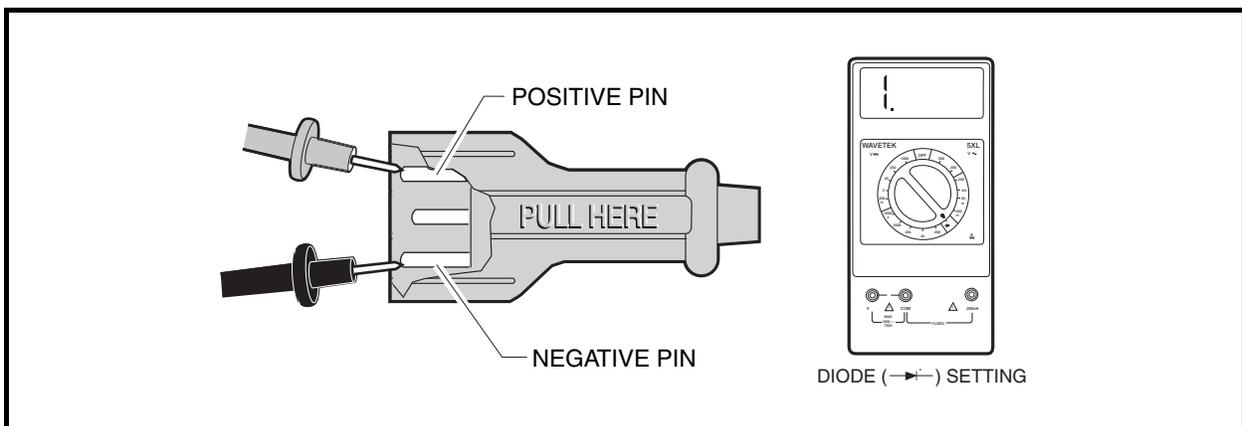

Figure 6-14 DC Plug Test
2. Using a multimeter set to the diode test function ($\rightarrow|$), place the positive (+) probe of the multimeter on the pin marked positive (+) on the DC plug (**Figure 6-14, Page 6-17**). Place the negative probe (-) on the pin marked negative (-). The multimeter should indicate an overload (no continuity).